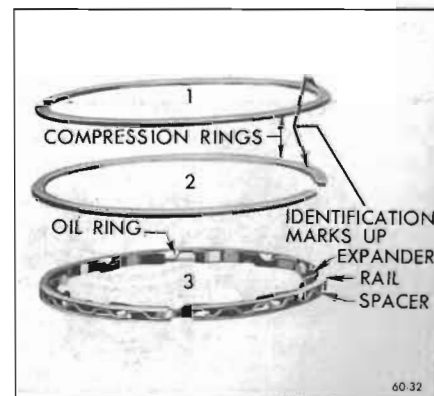

Figure 60-32—Piston Rings
7. Remove compression rings. Remove expander and oil ring by removing the two rails and spacer-expander. See Figure 60-32.